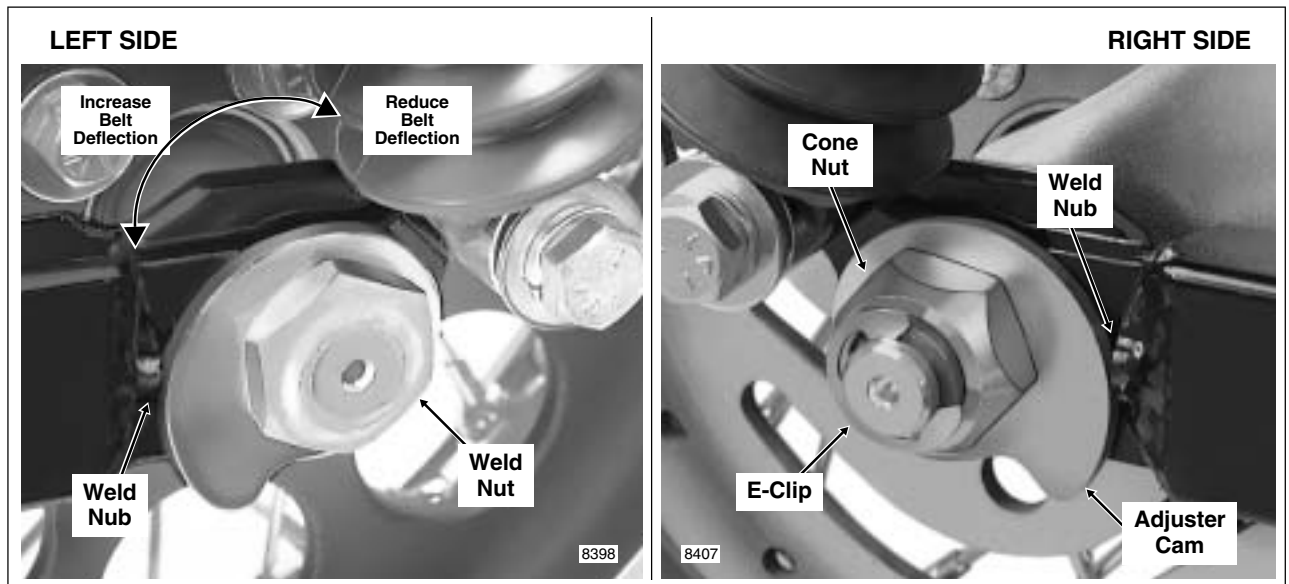

Figure 2-103. Move Rear Wheel Forward Until Adjuster Cams Just Contact Weld Nubs
15. Verify that adjuster cam just contacts weld nub on both sides of rear swingarm. If necessary, push wheel forward slightly to achieve the desired result. Snug the cone nut to 15-20 ft-lbs (20-27 Nm). See Figure 2-103.
- b. Push wheel forward slightly so that adjuster cam just contacts weld nub on both sides of rear swing-arm. See Figure 2-103.